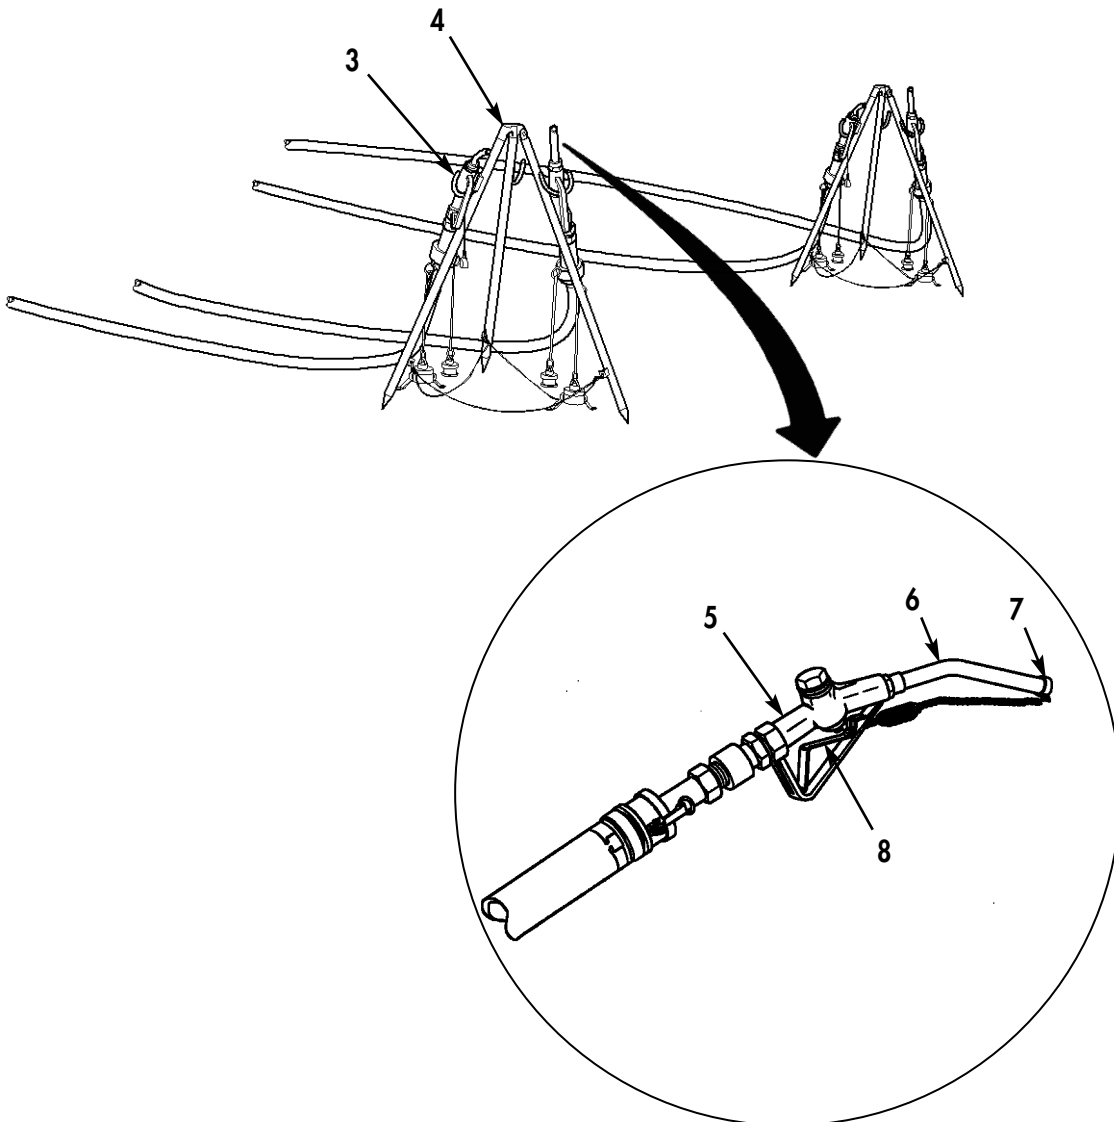

Figure 4. Use of Distribution Point Nozzles.
5. At any distribution point, remove nozzle assembly (Figure 4, Item 5) from hook (Figure 4, Item 3) on stand (Figure 4, Item 4). Remove nozzle dust cap (Figure 4, Item 7) from spout (Figure 4, Item 6) Refer to WP 0004.
6. Place end of spout (Figure 4, Item 6) in filler neck of suitable container and slowly squeeze nozzle lever (Figure 4, Item 8) to dispense water. Release nozzle lever (Figure 4, Item 8) to shut off water.
8. When finished dispensing water, place dust cap (Figure 4, Item 7) on end of nozzle spout (Figure 4, Item 6) and hang nozzle assembly (Figure 4, Item 5) on hook (Figure 4, Item 3) of stand (Figure 4, Item 4).